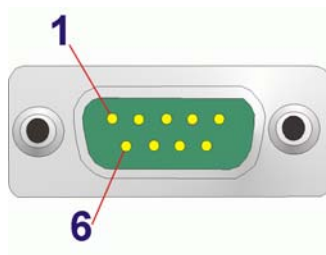

Figure 4-26: COM1 Pinout Locations
- CN Pinouts:** See **Table 4-26** and **Figure 4-26**